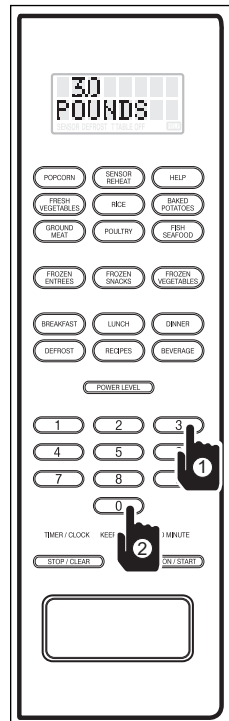

Figure 3-57.
3. Enter the weight of the food being defrosted. For example, press the number 3 key, then the number 0 key for 3.0 pounds (See Figure 3-57). After the weight is entered, the display will flash the weight entered along with the words “PRESS START”.